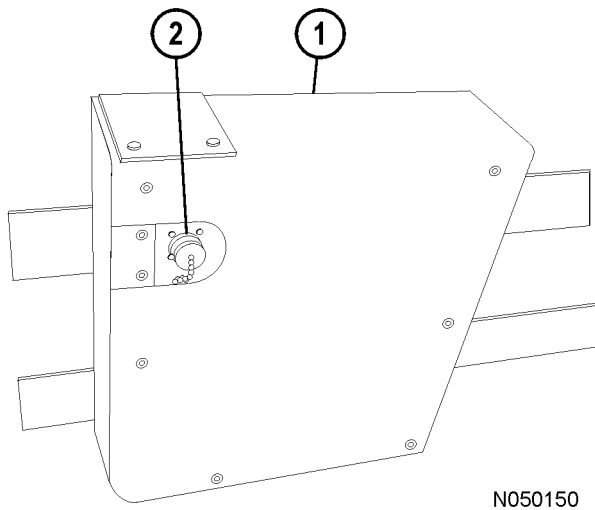

FIGURE 32-9. PAYLOAD METER
Payload meter (1, Figure 32-9) and payload meter download connector (2) are used to provide management with operational data, such as tonnage hauled and cycle times.
Payload meter download connector (2, Figure 32-9) is used with a special cable to allow payload meter (1) to communicate with a portable computer.